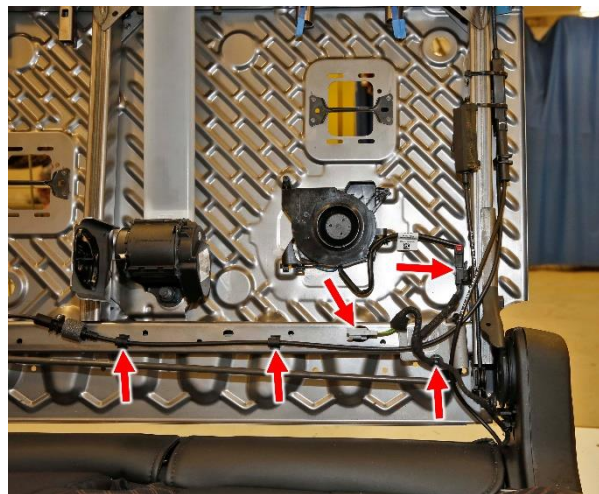

Figure 83 – Harness Cable Retainers
26. Disconnect the seat fan electrical connector then release the wire harness connector retainer from the seat frame (Figure 83).
27. Release the seat heater wire harness connector retainer from the seat frame (Figure 83).
28. Release the EZ-Entry handle cable retainers from the seat frame lower crossmember (Figure 83).
49. Install the EZ-Entry handle cable retainers to the seat frame lower crossmember (Figure 83).
50. Install the seat heater wire harness connector retainer to the seat frame (Figure 83).
51. Connect the seat fan electrical connector then install the wire harness connector retainer to the seat frame (Figure 83).